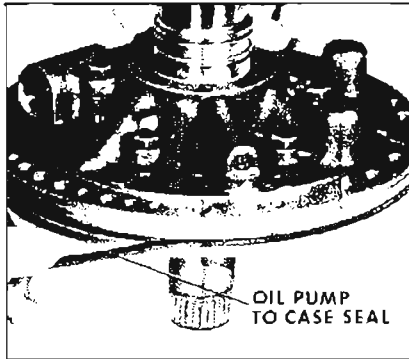

Figure 5-316
1. Install oil pump to case seal. See Figure 5-316.